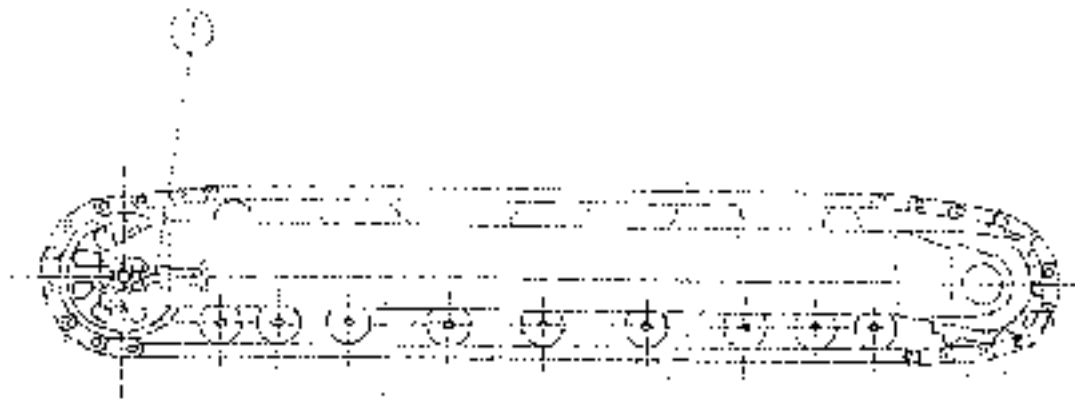

Fig. 10 Adjustment of Crawler Track
- 1). Retract the track adjuster ① (refer to Fig. 10).
- Adjusting the chain links of track shoes on horizontal ground and let the chain link deflection stack on drive wheel by driving the crane forward a little. Follow the method shown in Fig. 10.